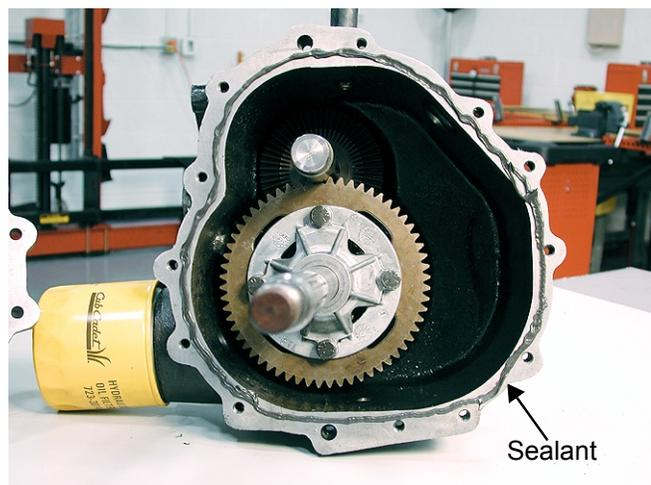

Figure 3
20. Place a bead of sealant around the perimeter of the right housing mating face. See Figure 3.